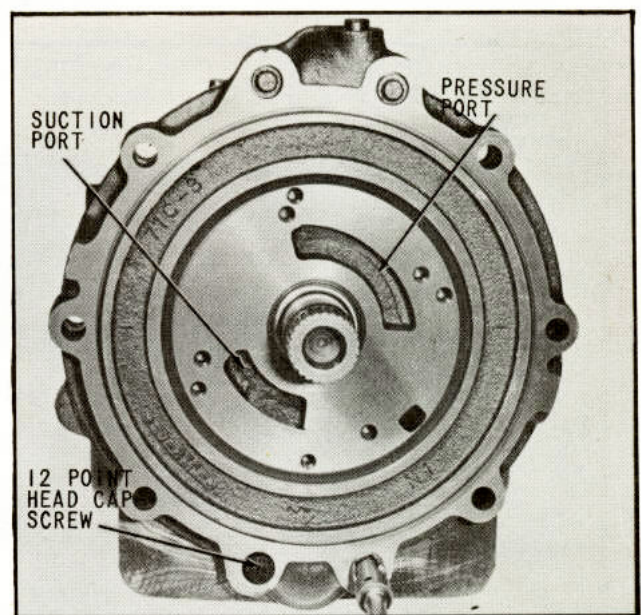

Fig. 58 Mounting Adapter to Case
adapter is squarely in place, install the four (4) cap screws, as shown in (Fig. 58). The adapter can now be pulled down squarely, until contact with the case is made, by alternately tightening the cap screws a small amount and checking frequently for binding. When adapter is pulled down as far as possible, tighten the four (4) cap screws to 27 to 37 pounds-foot torque.